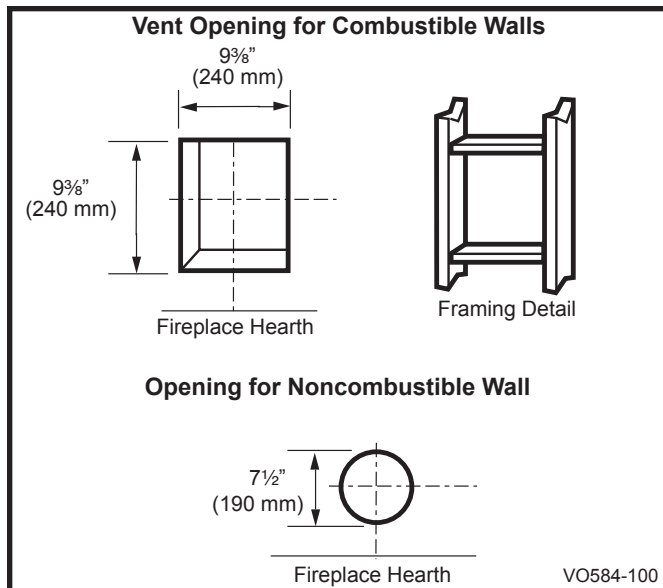

Fig. 32 Locate vent opening on wall.
Locate vent opening on the wall. It may be necessary to first position the fireplace and measure to obtain hole location. Depending on whether the wall is combustible or noncombustible, cut opening to size. (Fig. 32) (For combustible walls first frame in opening.)
Combustible Walls: Cut a 9 3/8" H x 9 3/8" W (240 mm x 240 mm) hole through the exterior wall and frame as shown. (Fig. 32)
1. Establish vent hole through the wall (Fig. 32)